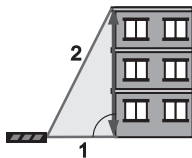

Fig. 1,
- The device can calculate the length of a hard to measure side from two easily measurable sides by calculation of the Pythagorean theorem. This function is used, for example, when measuring the height of a building, where the distance of the device from the foot of the building is measured (i.e. the shorter cathetus of a right-angled triangle) and the distance of the building's roof from the same measurement position of the device (i.e. the length of the hypotenuse of a right-angled triangle). The Pythagorean theorem is used to calculate the height of the building from the ground as the longer cathetus of a right-angled triangle, see fig. 1. In this case, this is a simple Pythagorean theorem function .
- To activate the simple Pythagorean theorem function  once and measure the lengths of the required (flashing) sides by pressing button . After measuring the length of one of the flashing sides, another side will start flashing that needs to be measured by pressing the same button. The lengths of the individual measured sides will be shown on the rows of the display, whilst when both the necessary sides are measured, the longest cathetus (height) will be automatically calculated according to the Pythagorean theorem as described in fig. 1. The resulting value (height) will be shown on the bottom row of the display.